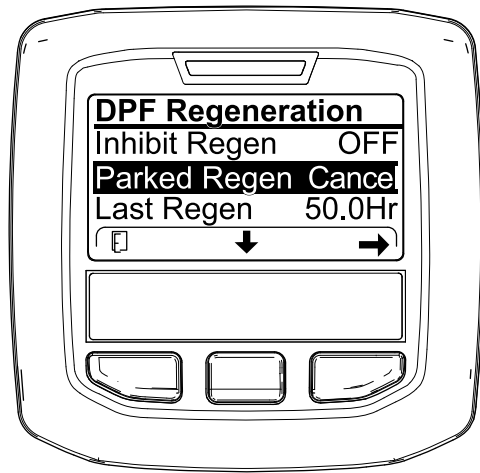

Figure 61
1. Access the DPF Regeneration menu (Figure 61).
2. Press the center button to scroll down to the PARKED REGEN CANCEL (Figure 61) or the RECOVERY REGEN CANCEL option (Figure 62).
3. Press the right button to select the Regen Cancel entry (Figure 61 or Figure 62).